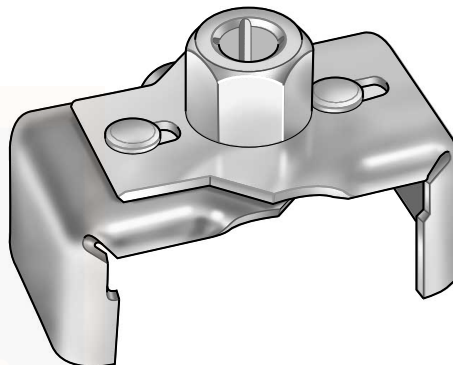

Figure 35. Oil Filter Wrench (Part No. HD-42311)
4. See Figure 35. Remove the oil filter using the OIL FILTER WRENCH. Clean the oil filter mount flange of any old gasket material.